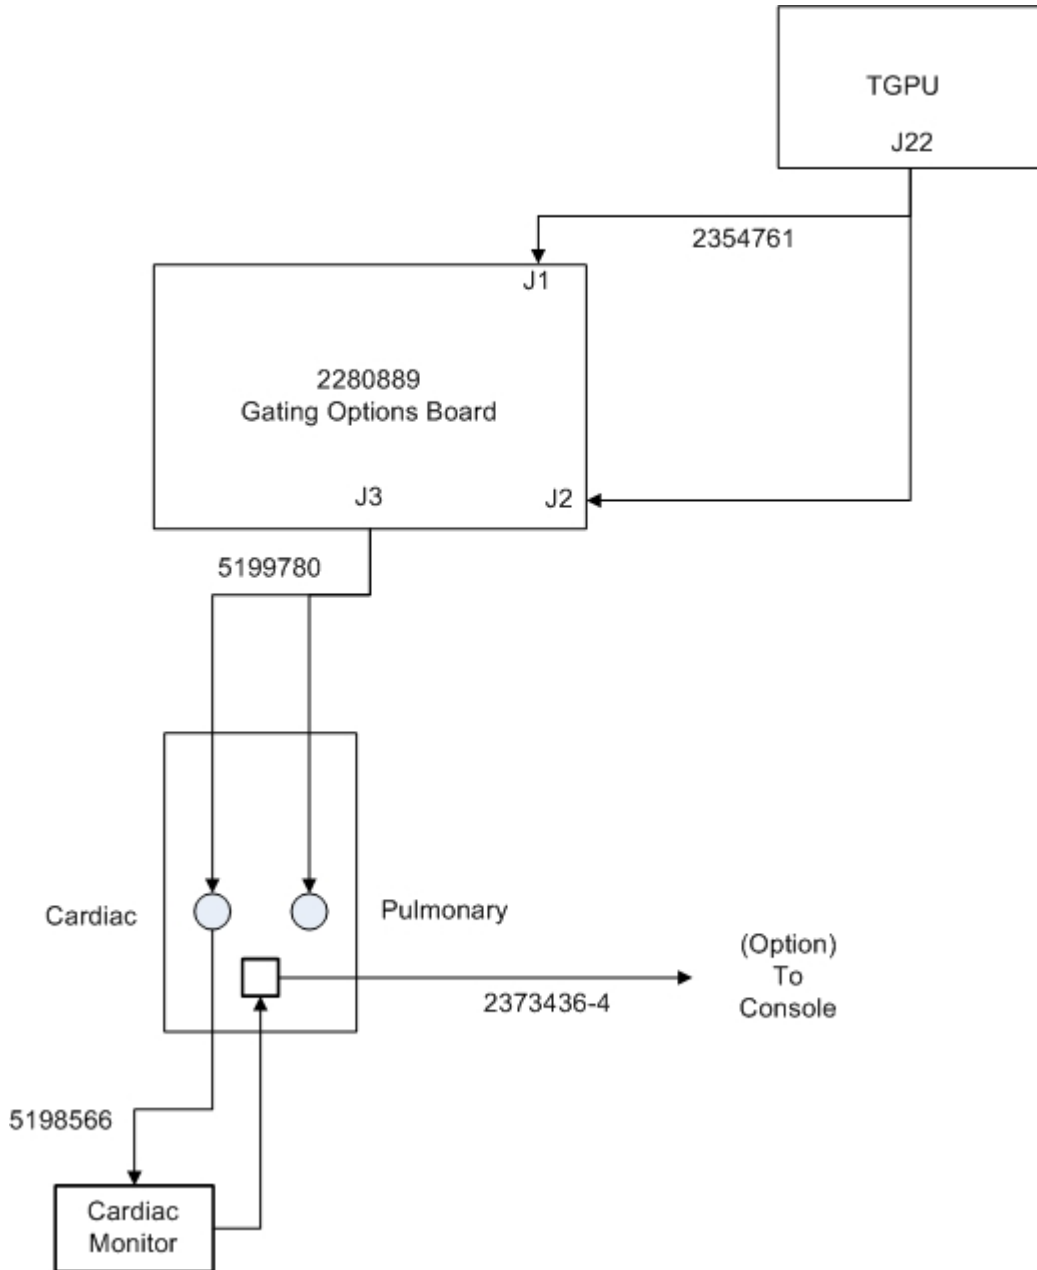

FIGURE 2-6 FUNCTIONAL INTERCONNECT DIAGRAM CARDIAC CABLE LAYOUT
- 7. On the TGPU (or MSUB), connect cable to TGPU (or MSUB) (PN# 2354761) to connector J22 (Refer to Figure 2-6 and 2-7).